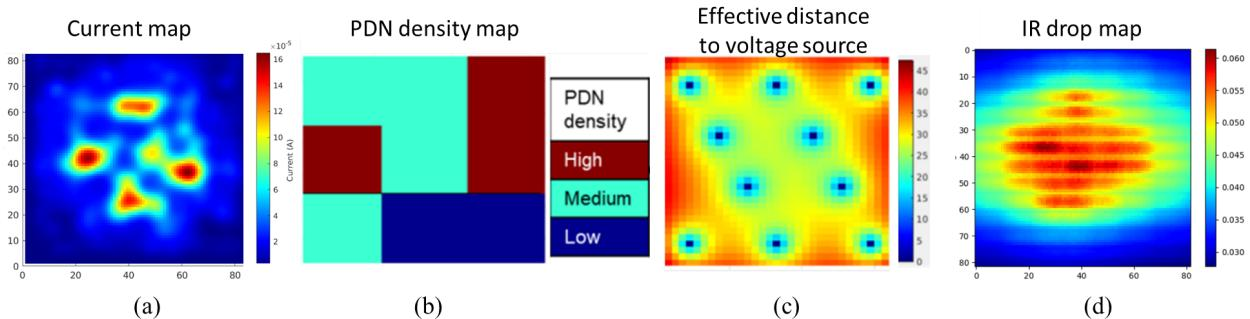

Fig. 1: Current map, PDN density, voltage source, and IR drop distributions across the chip.
**Features:** The example I presented in class represents the above three features as three distributions where the current source distribution is modeled as a current map (Fig. 1(a)); the PDN topology is modeled as a function of the density (spacing between power stripes per unit area) of the power grid (Fig. 1(b)) in different regions (there are only three types of densities), and the voltage source distribution is modeled as an effective distance map which is the distance from each PDN node to the PDN node with the voltage source (Fig. 1(c)). For example, one of the papers for Fig. 1(c), uses the idea of parallel paths and develops an effective distance to all N voltage sources as the reciprocal of the sum of distances to each voltage source.
**Labels:** The output is a distribution of IR drop at every node in the lowermost layer of the PDN, which can be represented as an IR drop map (Fig. 1(d)). Note that if you did not have good accuracy after Phase 1, you can use SPICE output directly as labels.
In this step, your goal is to convert the SPICE netlist to the images shown in Fig. 1(a), (b), and (c). Then convert the output voltage file into an IR drop map based on the nodes located on the lowest layer of the PDN, as shown in Fig. 1(d). To convert your SPICE files and output voltage files from Phase 1 to images, you can use the x and y coordinates available in the node names.